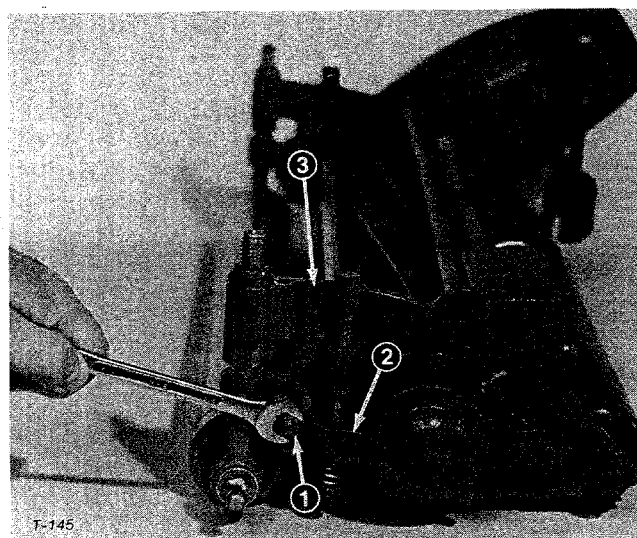

Figure 27
1. Loosen nuts securing left and right reel brackets to side plates (Fig. 27).